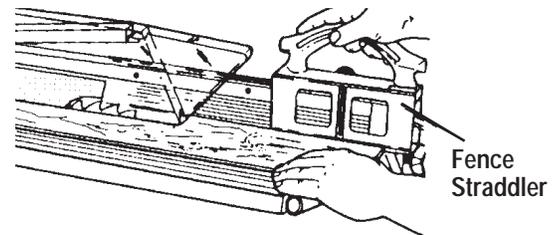

Figure D-9
5. When ripping stock less than 1-1/2" wide, use the fence straddler to finish the cut. See Figure D-9.